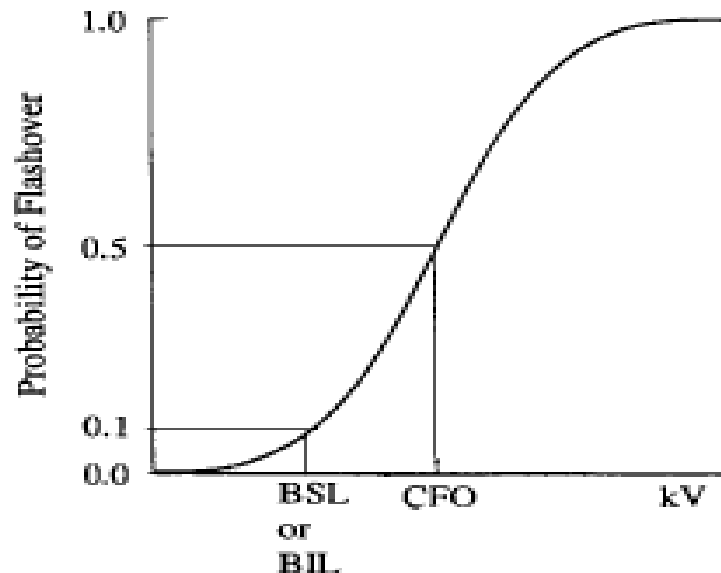

Figure 3 Insulation strength characteristic for self-restoring insulation.
- ▶ However there are **several types of tests possible**, from which (as shown in fig.3) BIL or BSL can be obtained